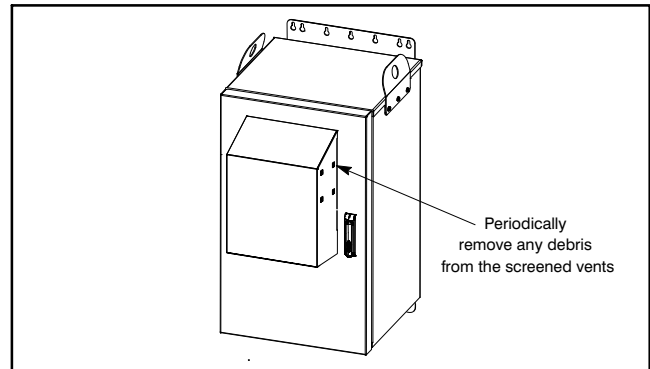

Figure 22. Clean the Air Intake/Exhaust Screened Holes
- At least once every six months, periodic inspections should be performed on the Boxer-20 cabinet to remove any debris from the fan cover's screened vents (Figure 22). This facilitates proper operation of the cabinet and allows unobstructed air flow.